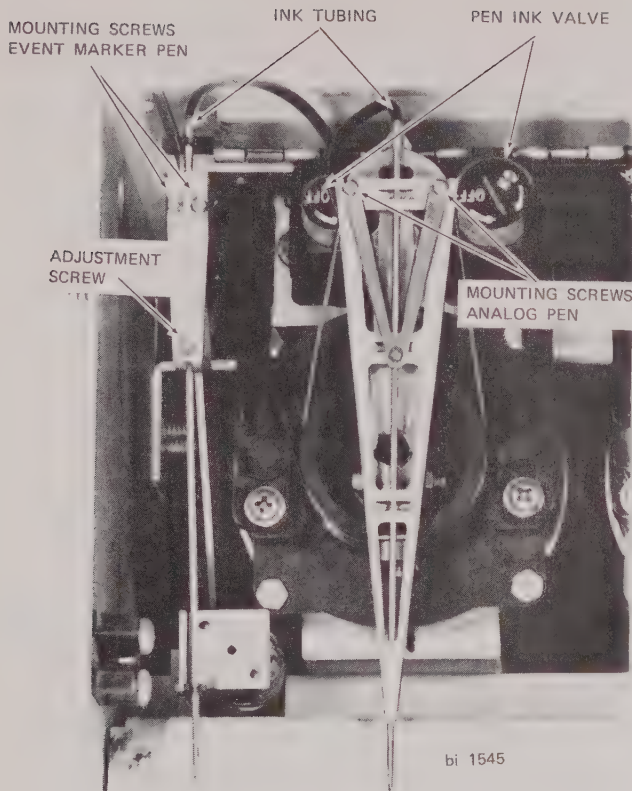

FIGURE 6-10. PEN REPLACEMENT
5. Loosen two screws which secure pen to drive arm and carefully slide pen off (Figure 6-10).
5. Loosen adjustment screw and two screws which secure pen to arm, and carefully slide pen off. Refer to Figure 6-10.
7. Remove pen assembly by loosening the two screws which secure it to drive arm and carefully slide off. Refer to Figure 6-10.